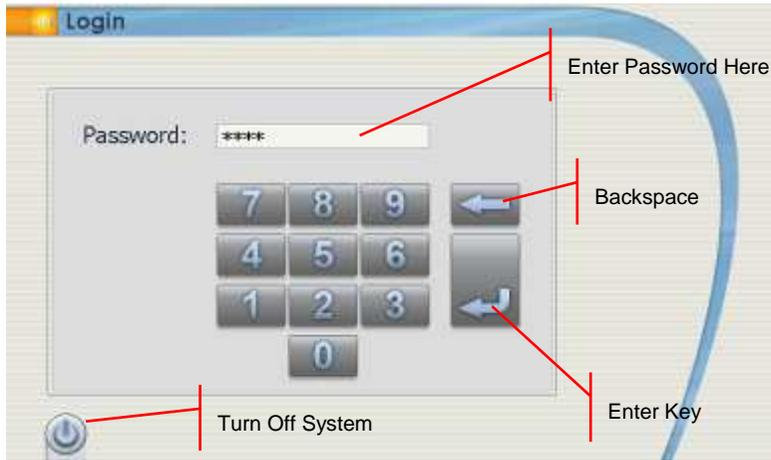

Figure 37: Tech Info Password Entry
8. The following screen will appear (Figure 37). Using the number pad, enter your password (Default is 654321) and press enter.